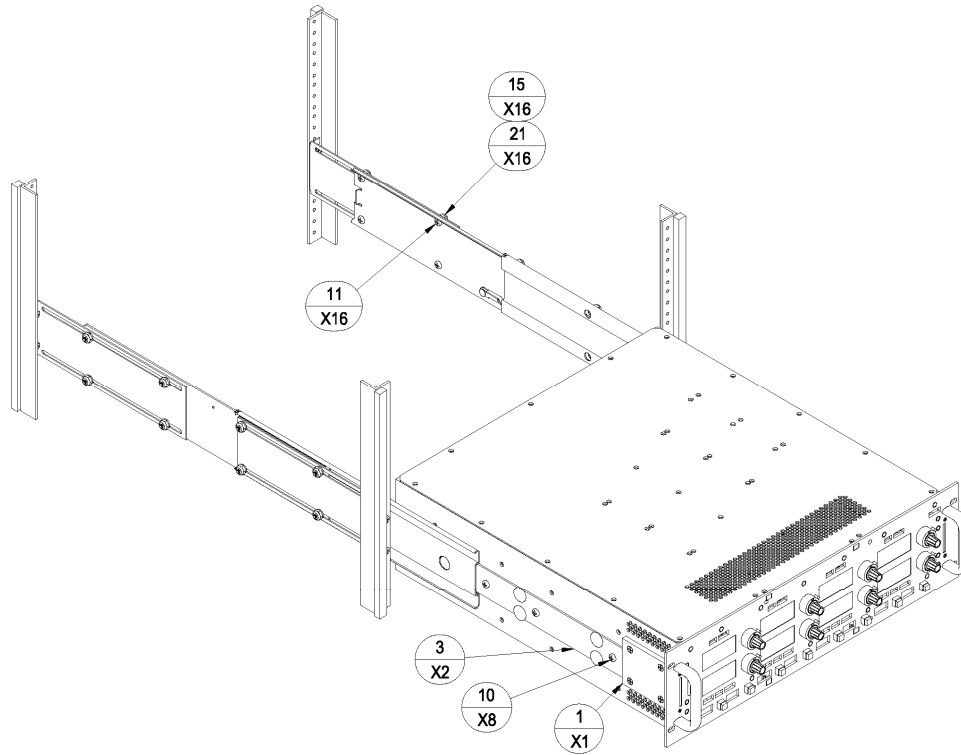

Figure 1
Each slide kit contains 1 pair of slides for the left and right side of the chassis. The slides are symmetrical and individual components can be used interchangeably. Each slide kit consists of four brackets, two slide sections (including two chassis inside sections), and hardware (figures 1, 2 and 3).
- ☐ 1) Fully extend each chassis slide assembly, pulling the chassis inside section (item 1) outwards until the chassis and the intermediate sections (item 2) lock into place.
- ☐ 3) UltraVolt's **HV Rack** system is equipped with PEM nut-mounting patterns on both sides to mount the rack slides' chassis sections. Mount the chassis inside sections to each side of the **UltraVolt HV Rack** power-supply chassis with four (4) each of the supplied 10-32x1/4 pan-head machine screws (item 10). When doing so, ensure the button stop on the end of the chassis inside section is oriented towards the rear of the system (figure 1).